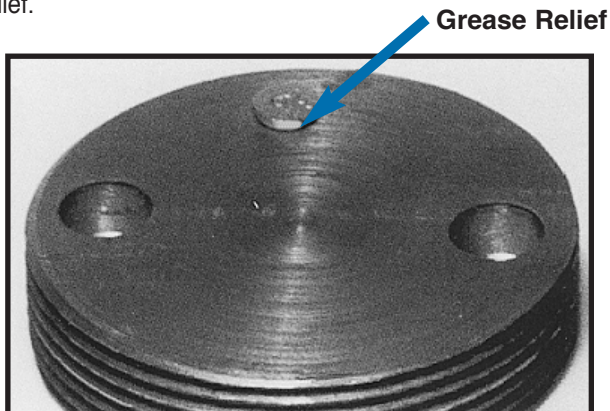

Figure 8 - Grease Relief
2. The newest CSI Midland/Gunite automatic brake adjusters are produced without a grease relief, forcing lubricant through the drilled worm wheel onto the camshaft. Previous designs incorporated a grease relief (See Figure 8).